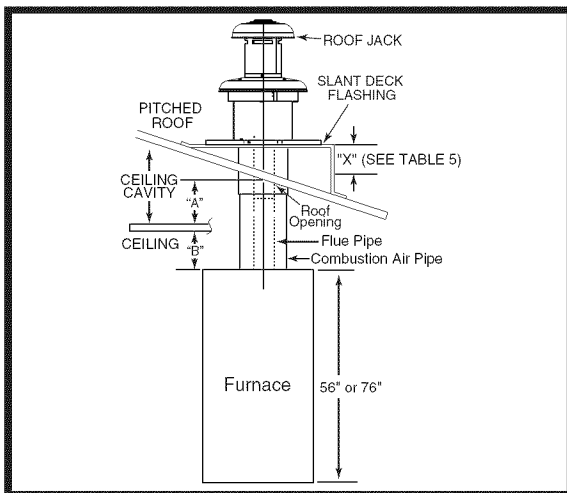

Figure 16. Ceiling Cavity Depth
1. Determine depth of ceiling cavity from center of roof opening to center of ceiling opening. (See Dimension "A" in Figure 16.)
2. Determine ceiling height and subtract height of furnace. (See Dimension "B" in Figure 16.)